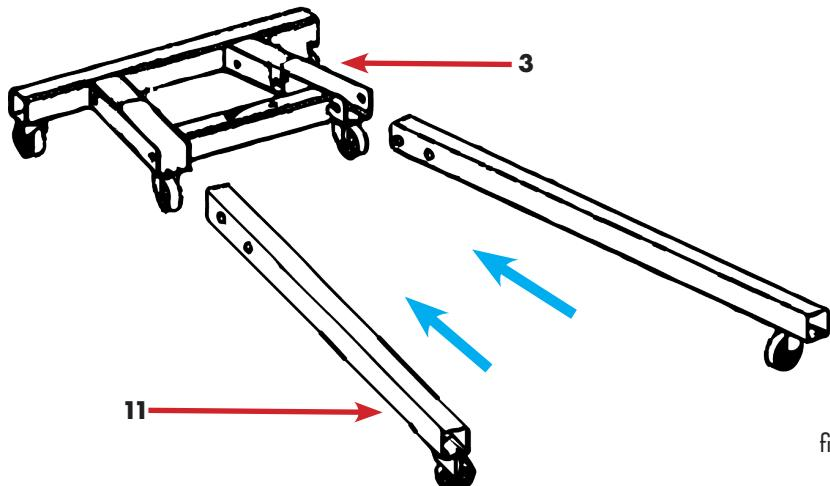

fig.9
- Slide one support leg into the respective housing of the π carrier until it stops, fig.9.
Legend figures 9 and 10 (see also from page 15, Figure 2 and Table 1)